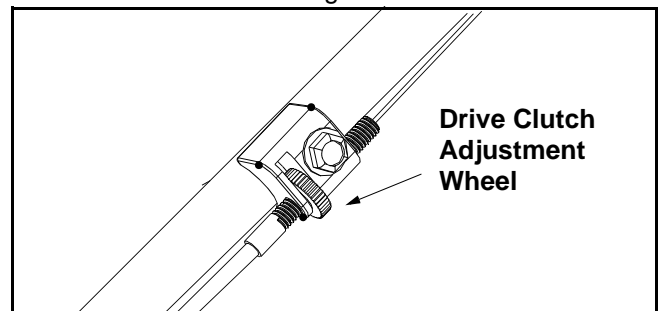

Figure 19
1. To adjust, rotate the adjustment wheel with your fingers. See Figure 19 for location of the wheel.